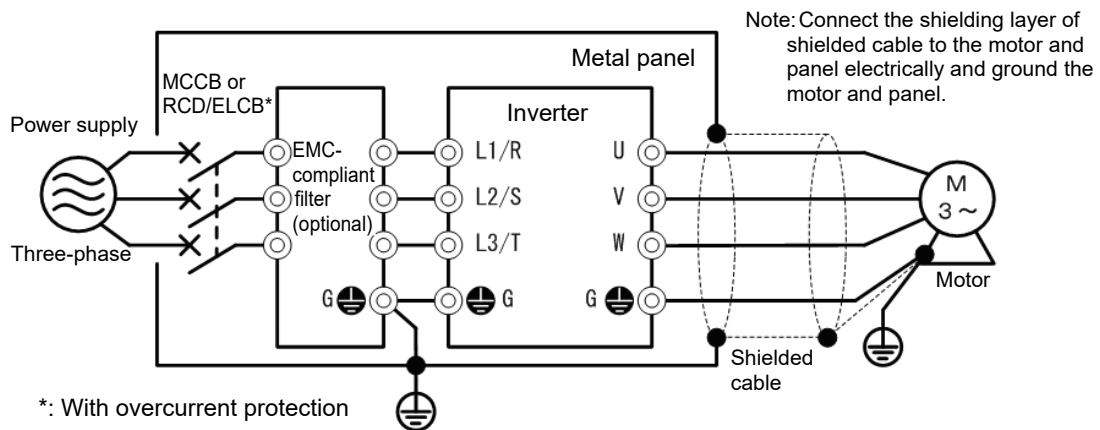

Fig. G.1-2 EMC-compliant filter (option) installation method
- (2) For connection to inverter's control terminals and for connection of the RS-485 communication signal cable, use shielded wires. As with the motor connections, clamp the shields firmly to a grounded panel.
- (3) If noise from the inverter exceeds the permissible level, enclose the inverter and its peripherals within a metal panel as shown in Fig. G.1-2.